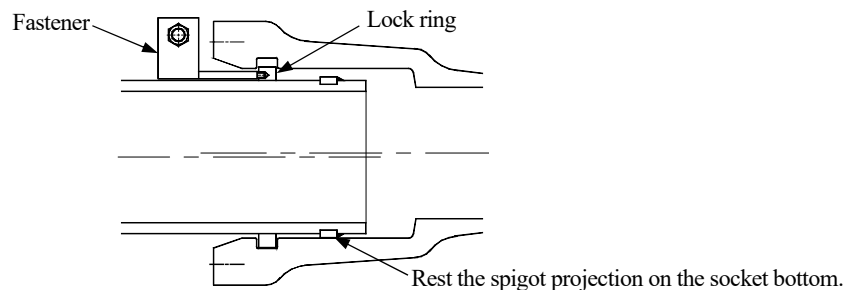

Figure 14 Contraction of lock ring
- 1) Rest the spigot projection on the socket bottom then contract the lock ring with the fastener at the top of pipe (see Figure 14).